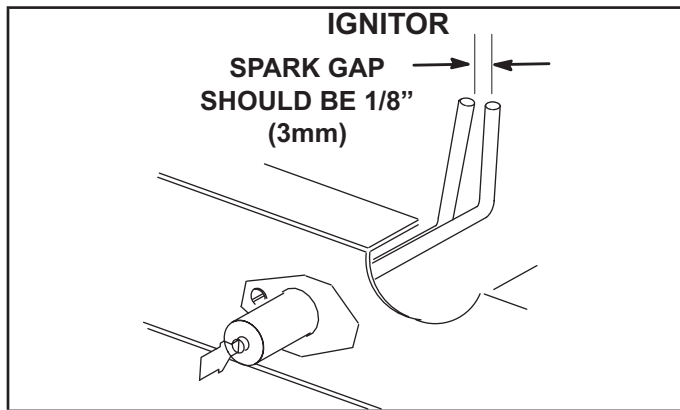

FIGURE 33
- 5 - Locate the ignitor under the right burner. Check ignitor spark gap with appropriately sized twist drills or feeler gauges. See FIGURE 33.